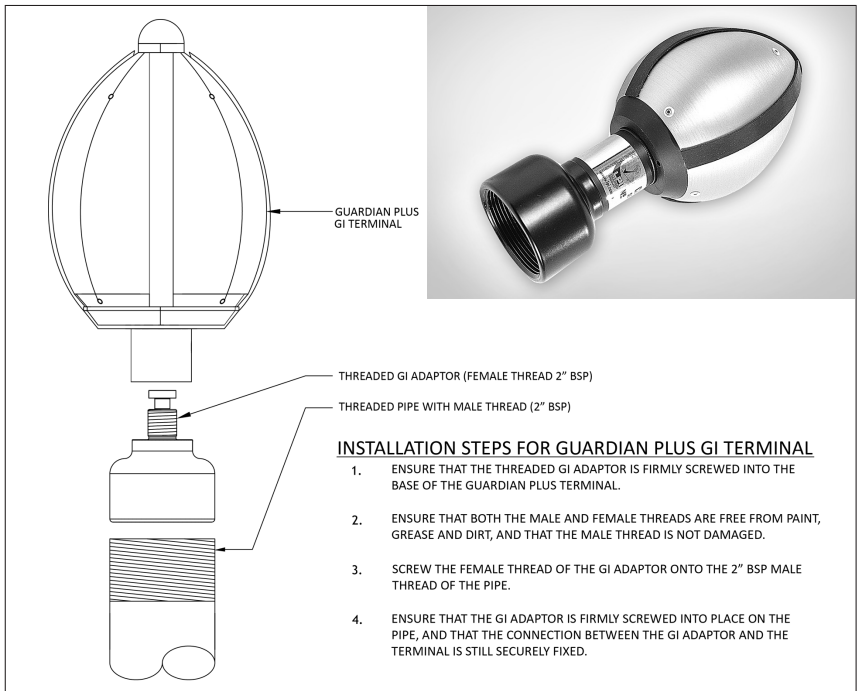

Figure 11.
LPI offers within its range of Guardian Plus terminals a "CM version" which is designed for a threaded connection to a 2 inch BSP Galvanised Iron (GI) pipe. Please refer to Figure 11 for further details.
After installation of the Guardian Plus CM terminal to the threaded pipe as per Figure 11, it is necessary to connect the metallic pipe to a conventional downconductor in order to convey the lightning energy to the earthing system.